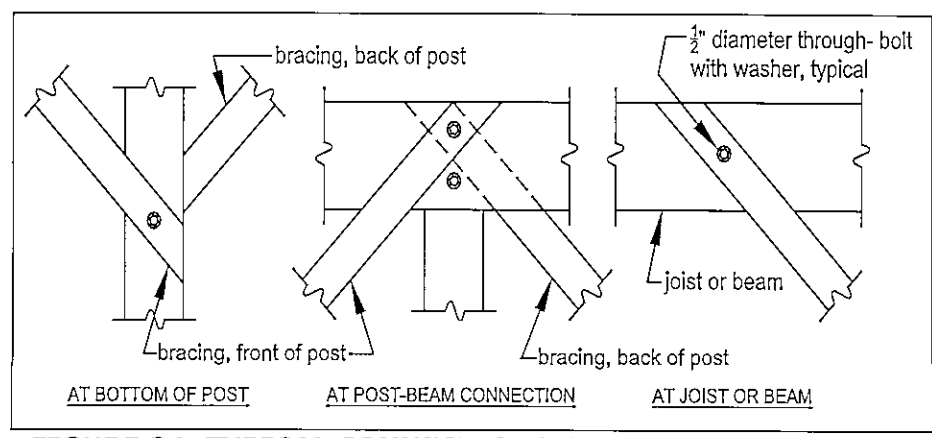

FIGURE 24: TYPICAL CONNECTIONS OF DIAGONAL MEMBERS
- Connection of diagonal bracing shall be in accordance with FIGURE 24.